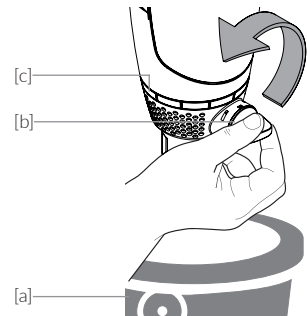

Fig. 8.2
- / turn the backwash handle [b] in the direction of the arrow by 90° back to the starting position (Fig. 8.2)
- / acc: to chapter 8 Backwashing, fig. 8.2 turn the backwash handle [b] back 90° in the direction of the arrow